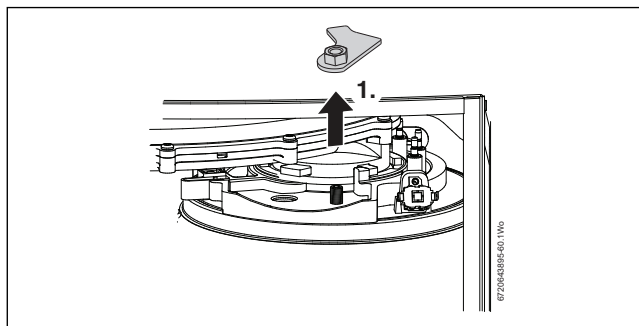

Fig. 74 Air/gas manifold securing nut
1. Refer to figure 74 and undo the securing nut on the top of the heat exchanger and remove the retaining plate assembly.